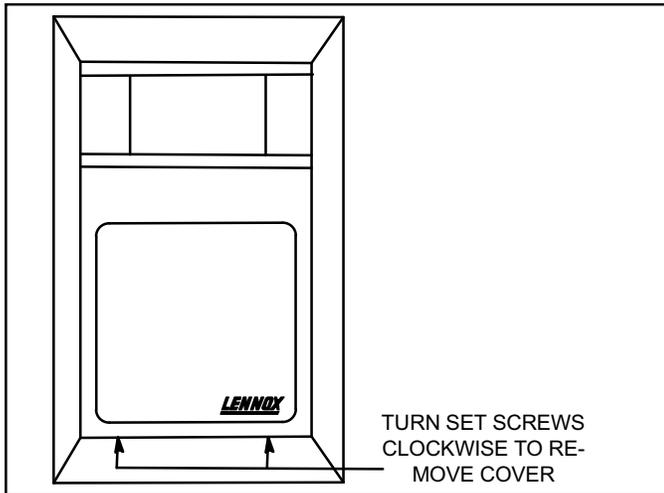

Figure 3. Wall-mount Humidity Sensor (A91)
2. Loosen screws and remove sensor cover (see figure 3).